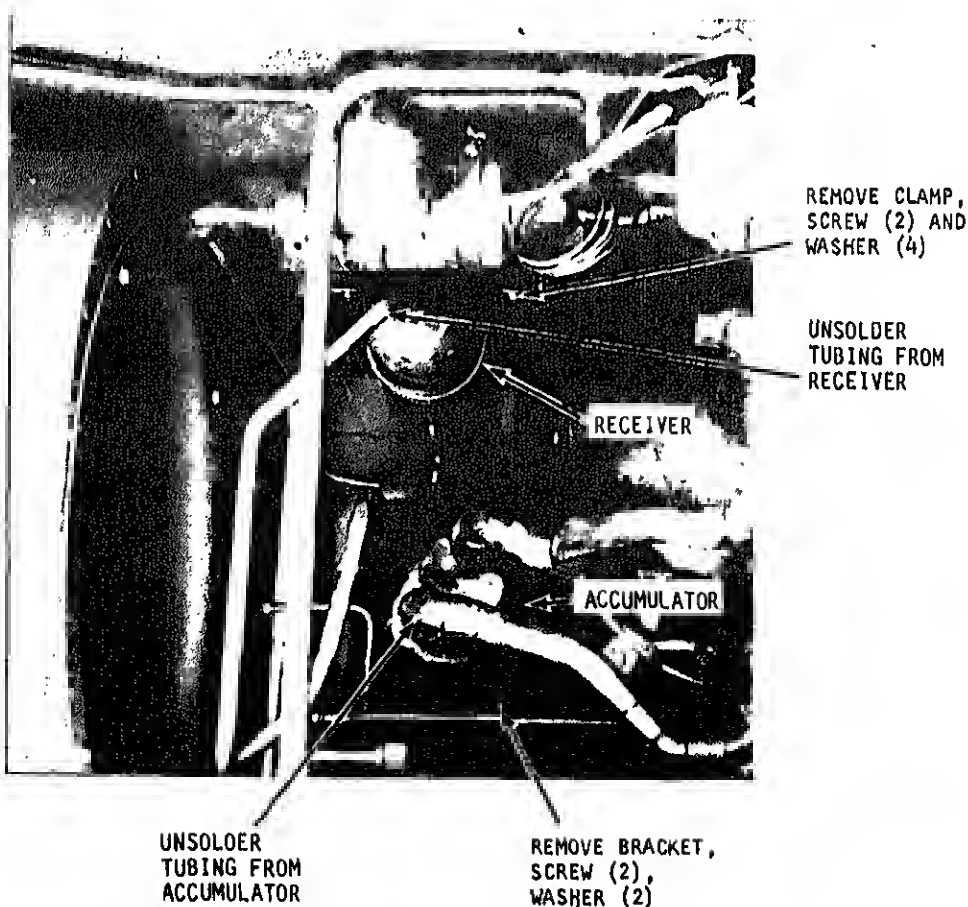

Figure 5-8. Receiver and accumulator removal.
(4) Refer to figure 5-8 and remove receiver mounting bracket.
(5) Unsolder receiver from refrigeration system tubing.
(1) Refer to figure 5-8 and mount receiver on compartment wall.
(4) Refer to figure 5-8 and unsolder system tubing from accumulator.
(5) Remove two screws and washers holding accumulator bracket. Remove accumulator.
(6) Remove nut to separate accumulator from bracket.